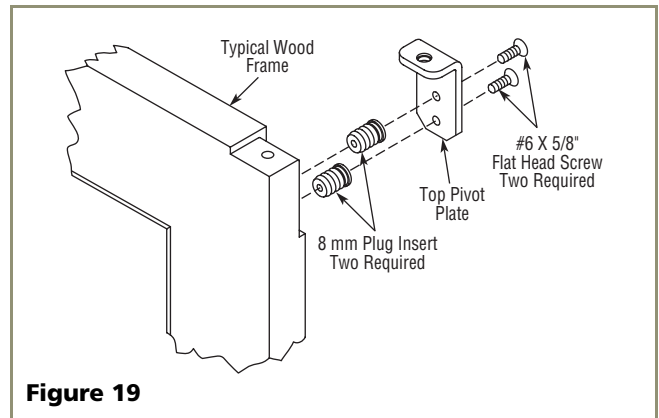

Figure 19
1. Tap nylon inserts into the top holes drilled in the overlay frame. Use two #6 screws to attach top pivot bracket to the overlay frame (see **Figure 19**).